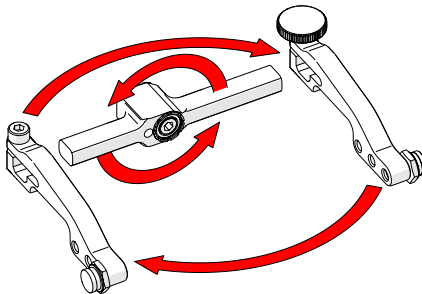

Fig. 107 - Flip yoke and reverse arms
4. Flip the yoke 180° and reverse the probe holder arms (Fig. 107).